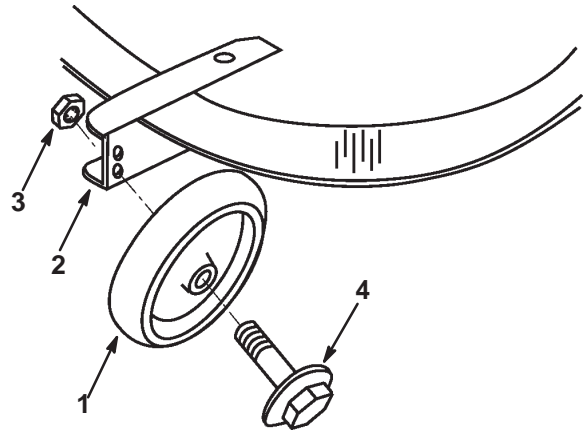

Figure 2
2. Mount the wheels onto the wheel brackets with wheel bolts and $\frac{3}{8}$ –16 lock nuts (Fig. 2). Use the same hole height on both sides. Refer to adjusting mower wheels.
1. To change the height of mower wheels remove wheel mounting bolt and change hole into which it is mounted (Fig. 2).
2. Use the top hole for low height-of-cut and the bottom hole for high height-of-cut (Fig. 2).